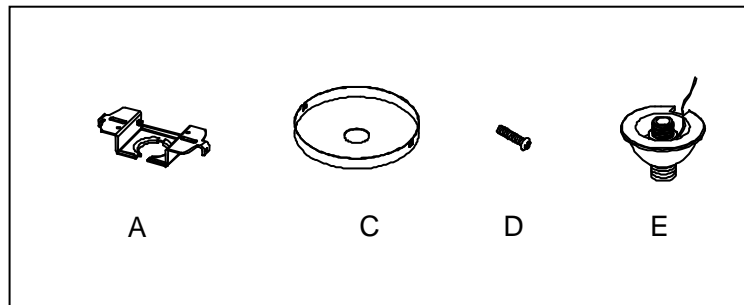

Fig.2
SUGGESTED INSTALLATION (Fig. 2)
3. Secure tube (J) onto nipple (O) located on the fixture body (H).
4. Connect the steel cable to the fixture body by threading screws (G) into coupling (P).
5. Attach the mounting plate (A) to the junction box using mounting screws (B) (Size: #8-32N*L0.5") as shown in Fig. 2.
6. Determine the desired hanging height and thread rods (F1, F2, and F3) to the nipple (I). Pass the wires carefully through each rod as you assemble.
7. Place the canopy (C) over rods (F) and thread the hanger ball (E) to rods (F). Please remove the nipple if installing with one 6" rod only.
9. Install the fixture body into the mounting plate (A) by tilting at a slight angle so that the hanger ball (E) slips into the mounting plate (A) as shown. Align the notch in the hanger ball (E) to the tab on the mounting plate (A) to prevent the fixture from turning.